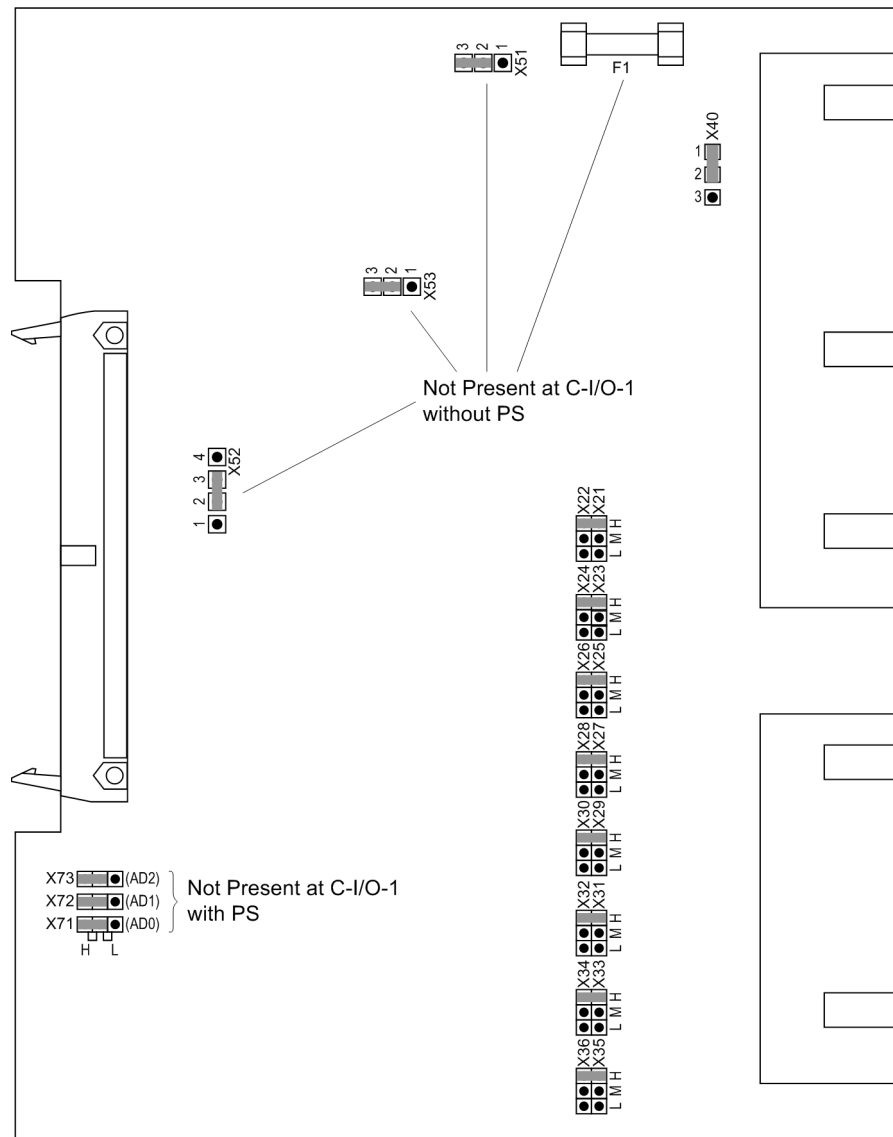
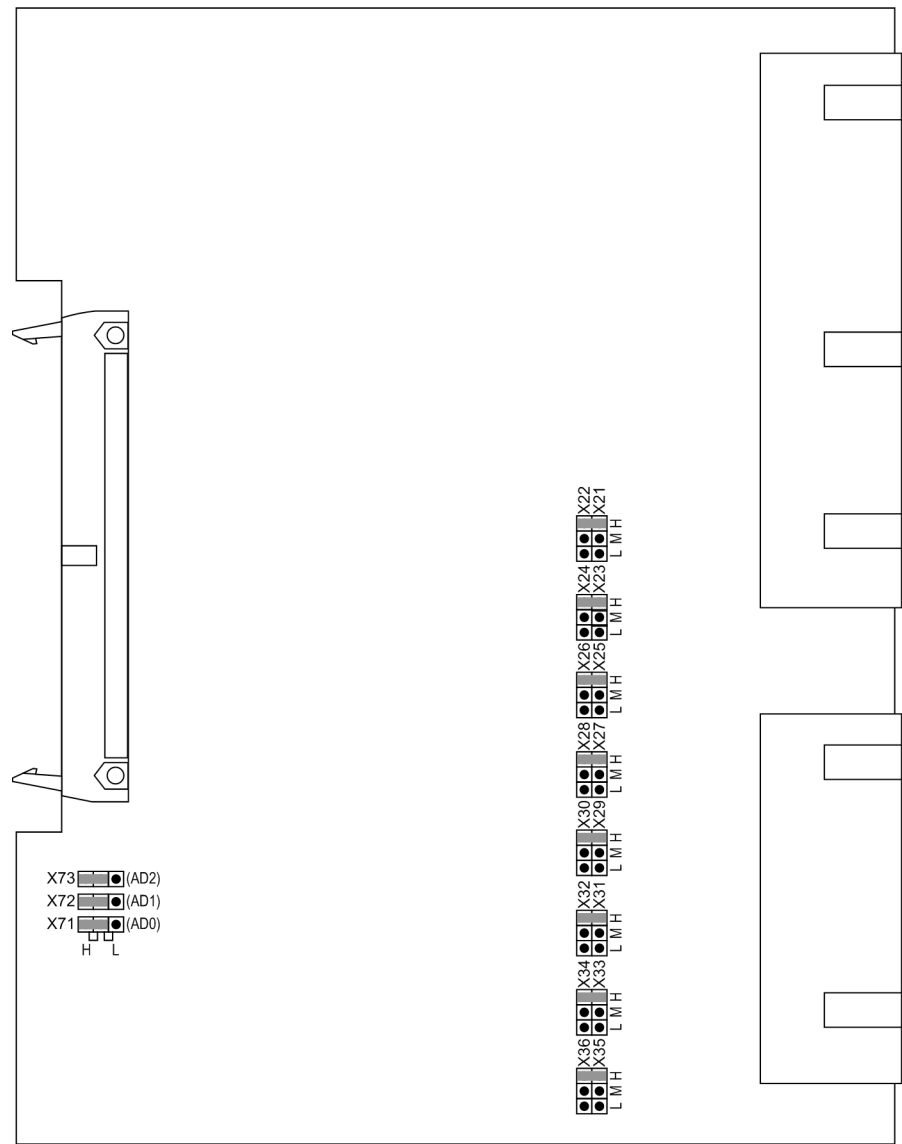

Figure 3-5 Input/output board C-I/O-1 with representation of the jumper settings required for the board configuration
Figure 3-6 Input/output board C-I/O-10 with representation of the jumper settings required for the board configuration
- Check the jumpers according to Figures 3-5 to 3-11 and the following information, and as the case may be change or remove them.
The layout of the PCB for the input/output board C-I/O-1 is shown in Figure 3-5, the PCB for the input/output board C-I/O-10 is shown in Figure 3-6.